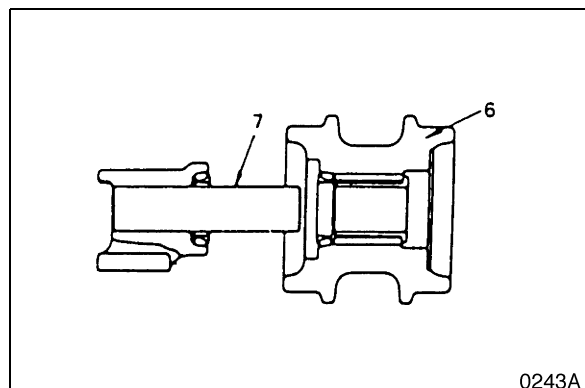

Figure 42
3. Separate the roller (6, Figure 42) from the axle (7).